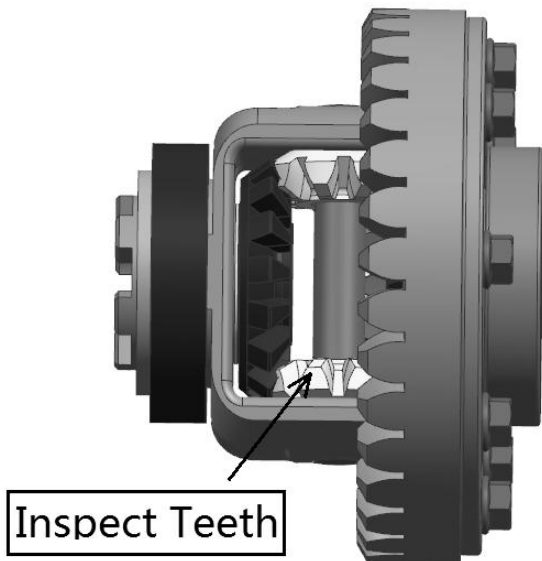

Fig 7
**Important:** Do not disassemble the differential assembly (B). Replace as an assembly if damaged or worn. →Fig 7